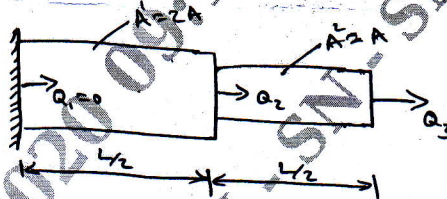

Fig.Q10
- 10 Find the natural frequencies of longitudinal vibration of constrained stepped bar shown in Fig.Q10.